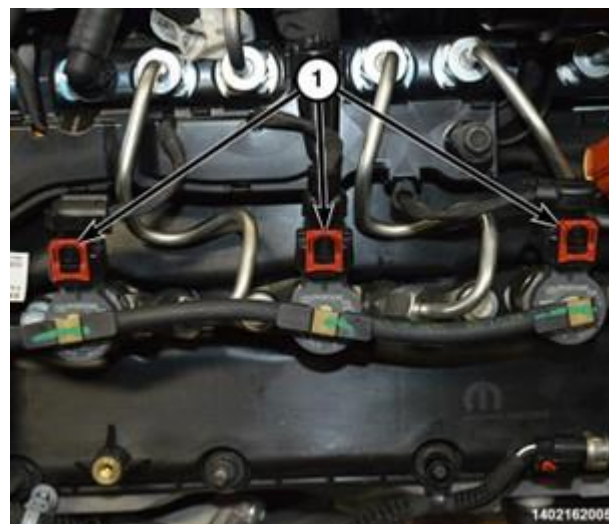

Figure 131 – Fuel Injector Wire Harness Connectors
69. Disconnect the fuel injector wire harness connectors (1) (Figure 131).